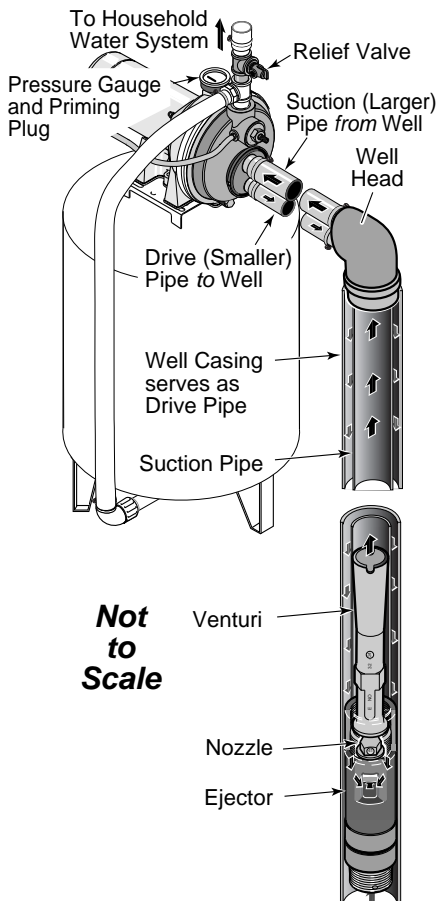

Figure 11: 2" (Single Pipe) Deep Well
2" Well (Figure 11)
3. Assemble ejector kit FP4840 (kit sold separately), well piping, and well head adapter according to the instructions provided with the ejector package. See Figure 11. Use galvanized drop pipe with turned couplings to allow proper flow. Follow the instructions included with the kit in order to match the nozzle and venturi to your well conditions.